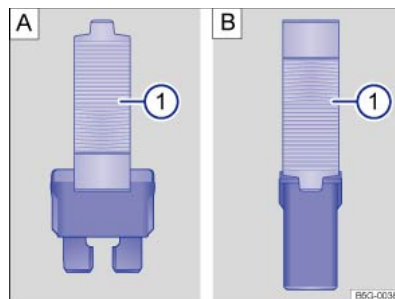

Fig. 214 Remove or insert fuse with plastic pliers: : flat blade fuse, : JCASE® fuse.
- If applicable, take the plastic pliers ⇒ Fig. 214 ① out of the fuse box cover.
- Push the plastic pliers suitable to the fuse design ⇒ Fig. 214 A ① or ⇒ Fig. 214 B ① onto the fuse from the side.
- If the fuse has blown, replace it with a new fuse of the *same* amp rating (same colour and same markings) and *same* size ⇒ ①.